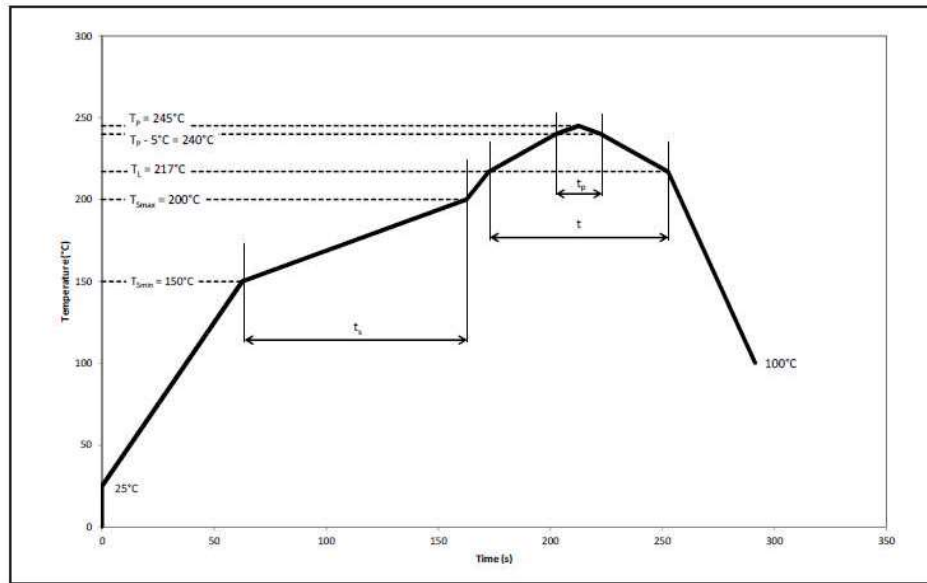

Figure 1: Recommended Pb-free Soldering Profile
- The temperature profile as shown in Figure 1 is recommended for SMD LED soldering.